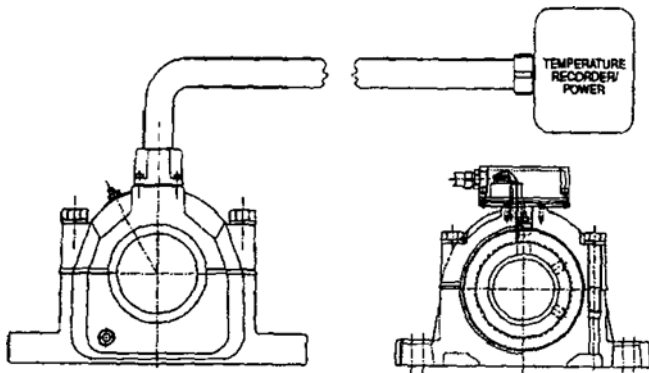

FIGURE 3
I. Pillow block assemblies equipped with embedded thermocouple, transmitter and data acquisition system is shown in Figure 3.